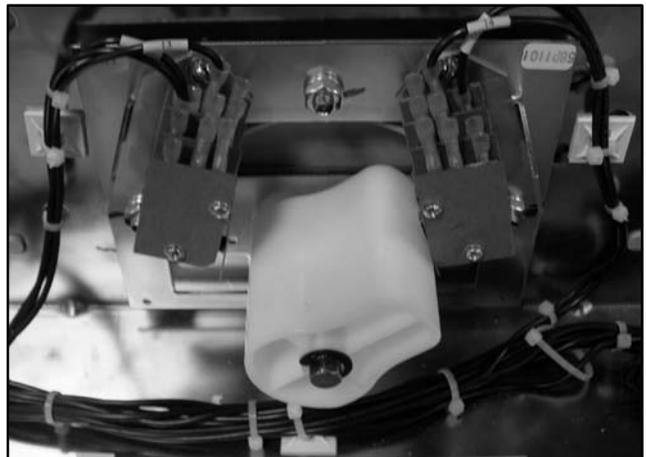

Figure 5-4 Microswitch Fast-On Connectors
6. Disconnect the fast-on connectors. See Figure 5-4.